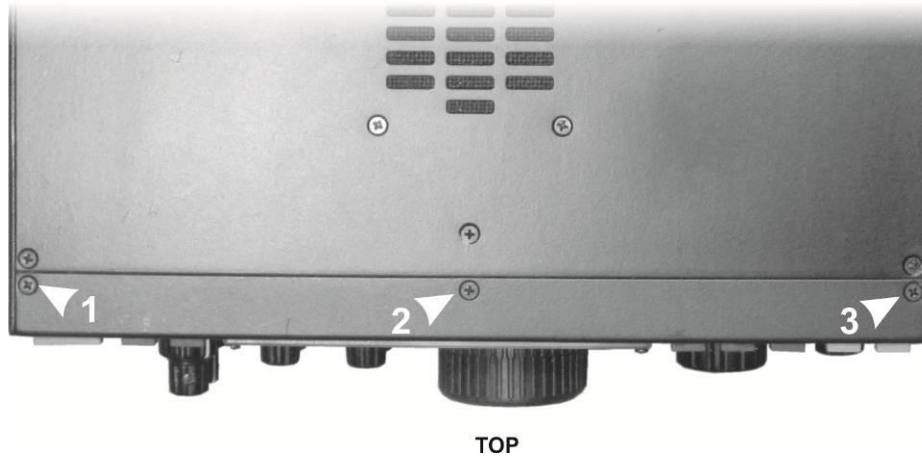

Figure 5. Removing the Top Front Panel Screws.
- Remove the three screws on the top lip of the front panel (see Figure 5)